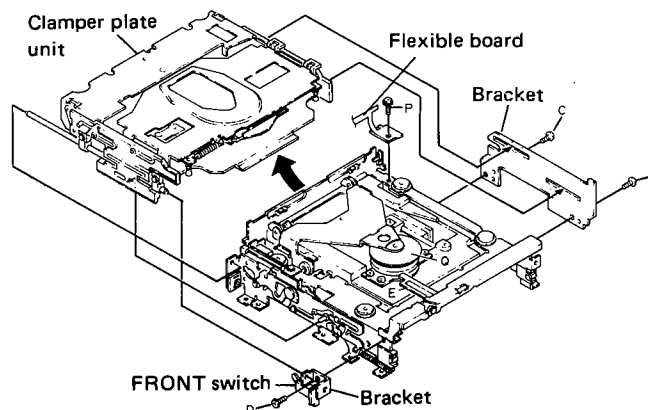

Fig. 21
• Clamper Plate Unit Removal (Fig. 21)